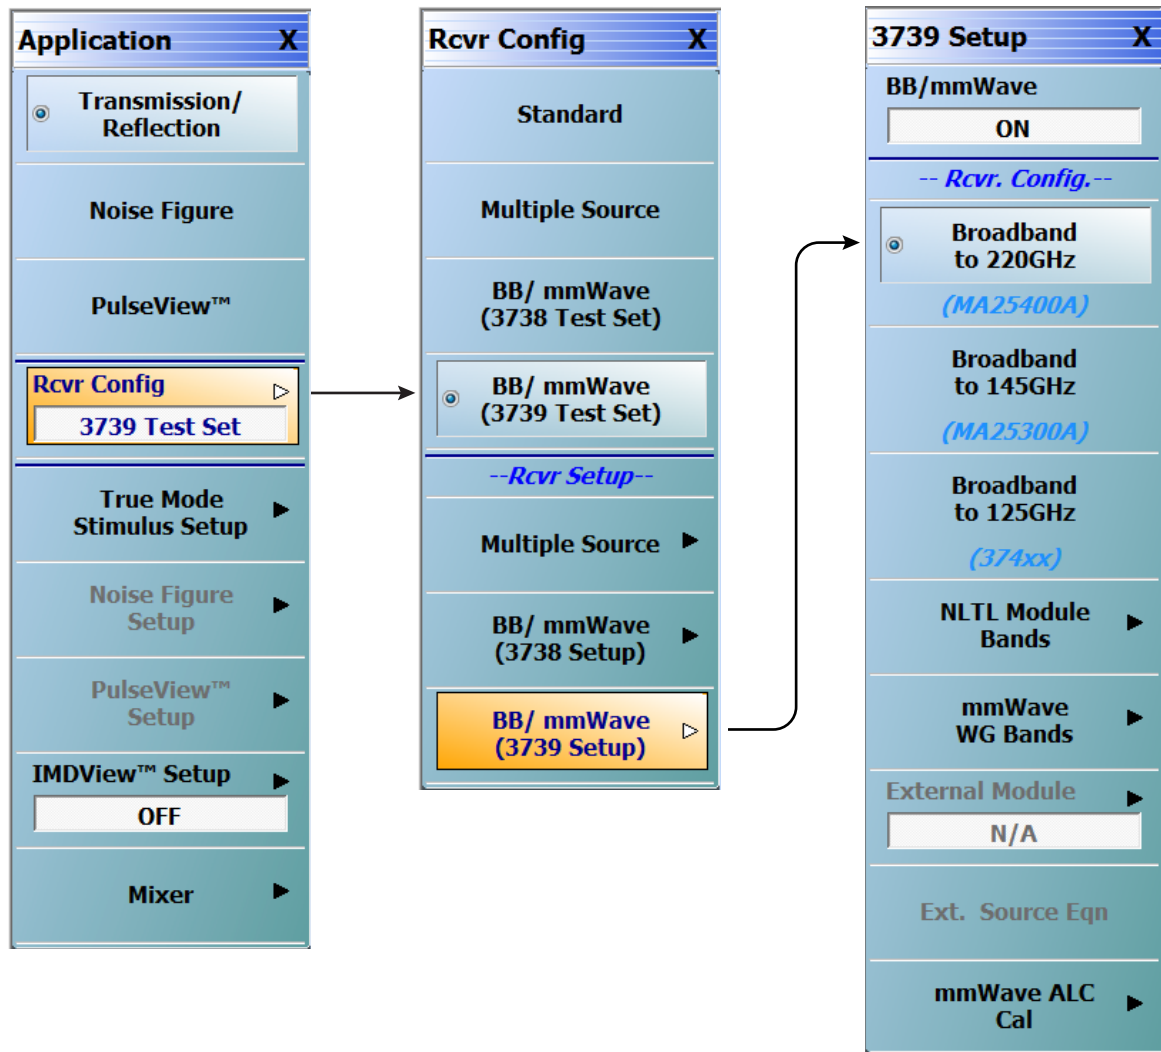

Figure 5-2. 3739 Setup for Broadband Modules (MS464xB Systems)
5. Select Broadband to 220 GHz as shown in Figure 5-2.